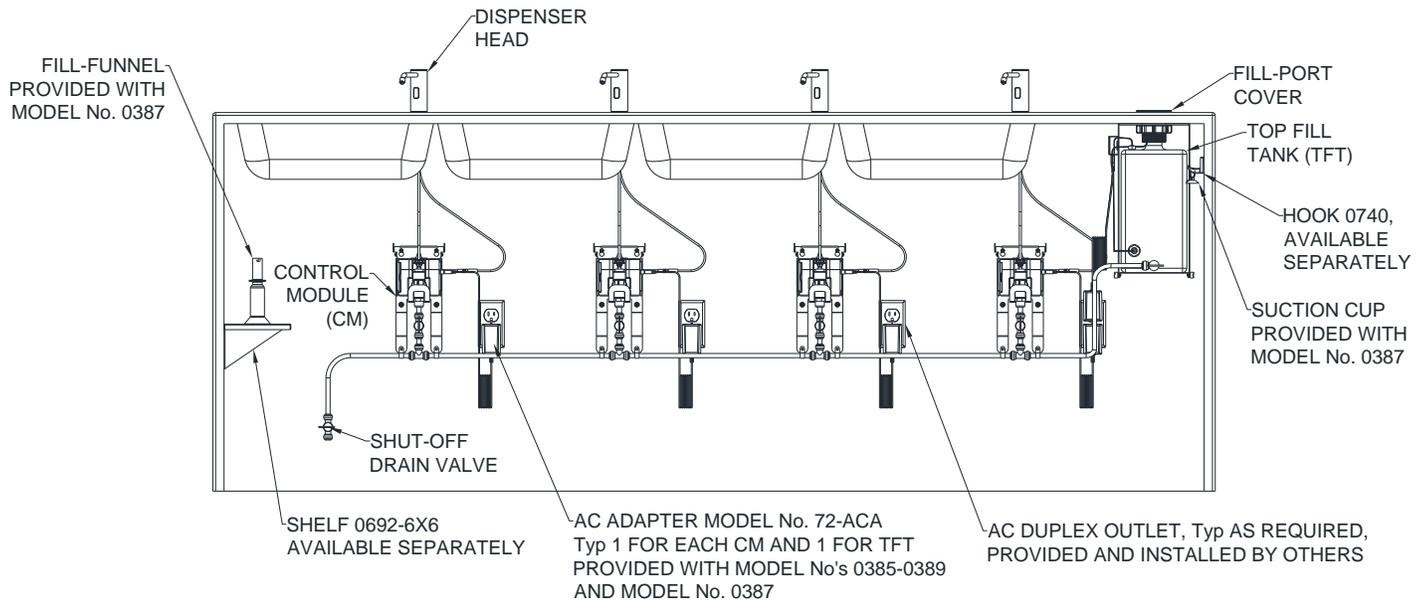

Fig. 5
6. Fill TFT (see Model № 0387 OM&IG) with foaming soap having a pH in range 7 ± 1.5 and within the viscosity range of 1–100 cP (mPa·s). (See Fig. 5)